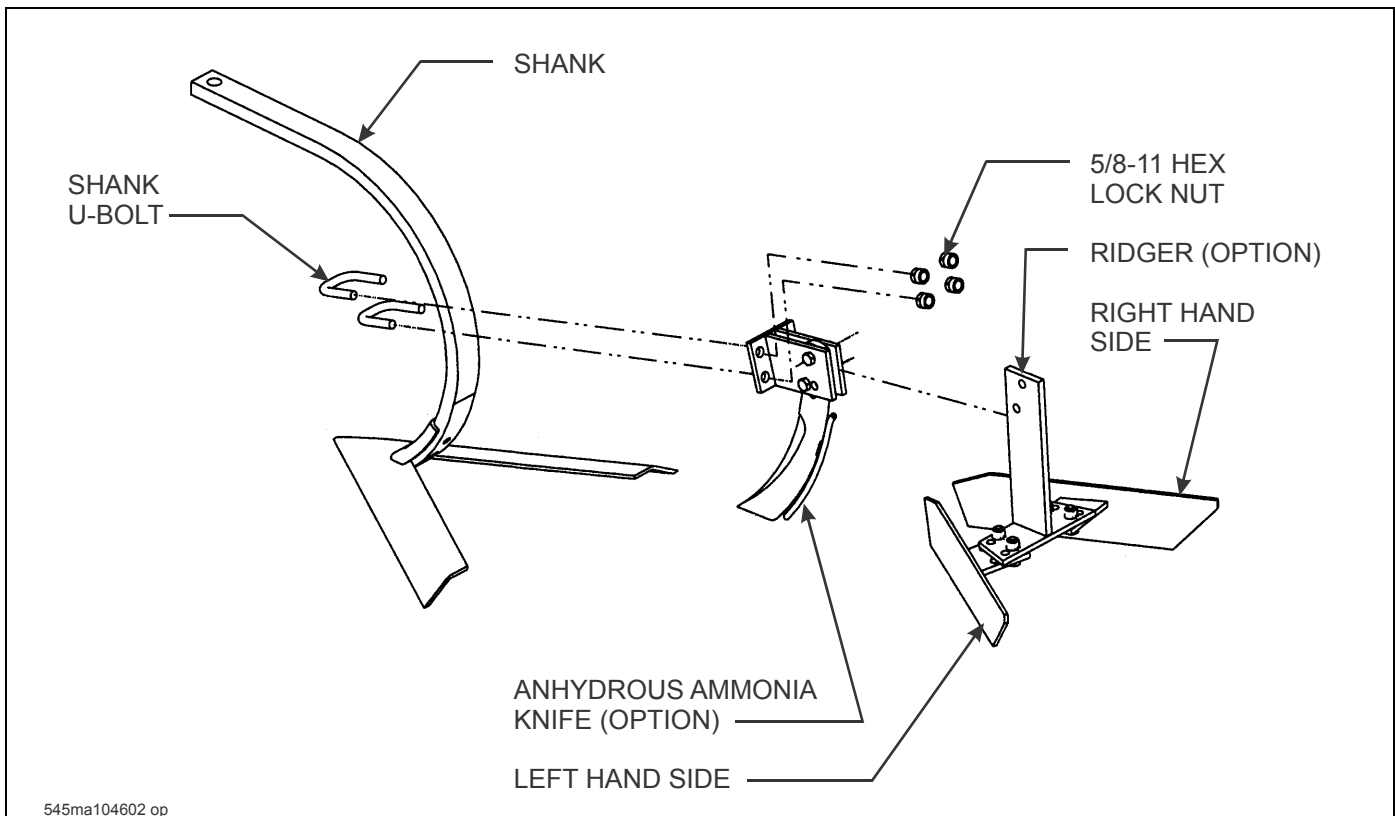

Figure 4-7: Ridger and Knife Adjustment
1. Adjust the ridgers or anhydrous ammonia knives (See Figure 4-7) by loosening the clamp bracket on the shank, and slide the ridger or knife to the desired depth. Loosen the ridger bracket bolts and slide the ridgers in or out to the desired width. Retighten the bracket bolts.